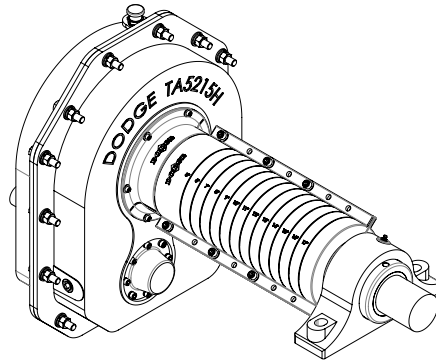

Figure 3 - Assembled Inboard Shaft Guard
8. Once all bolts are installed, torque to appropriate values ④. Figure 3 shows the complete assembled Inboard Shaft Guard on the gearbox.